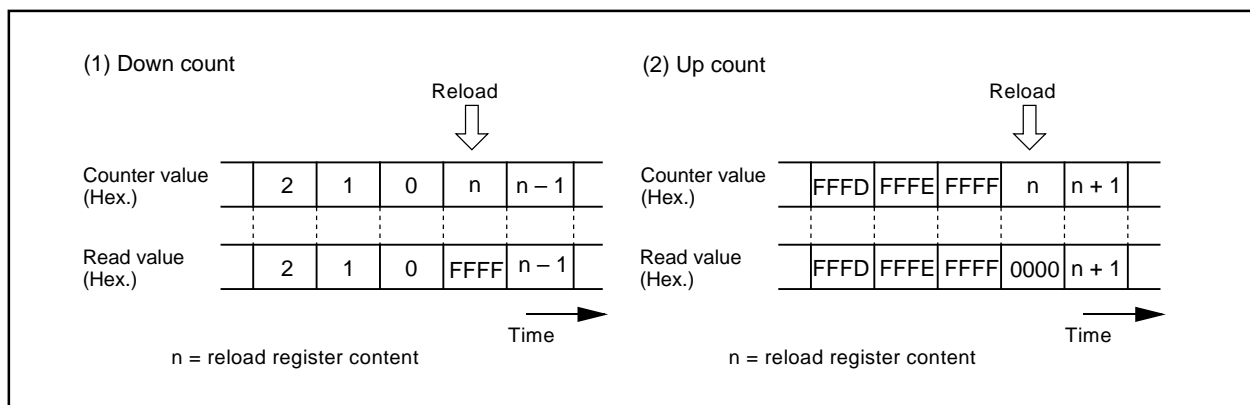

Figure 1.3.2. Reading timer Ai register
2. Reading the timer Ai register while a count is in progress allows reading, with arbitrary timing, the value of the counter. Reading the timer Ai register with the reload timing shown in Figure 1.3.2 gets "FFFF₁₆" by underflow or "0000₁₆" by overflow. Reading the timer Ai register after setting a value in the timer Ai register with a count halted but before the counter starts counting gets a proper value.